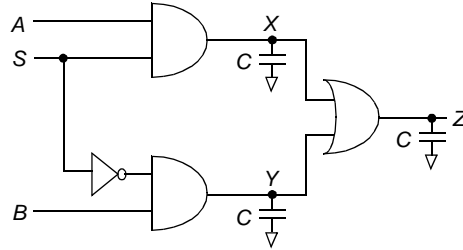

Figure 6.20 Two-input multiplexer
28. [C, None, 4.4] Figure 6.20 shows a two-input multiplexer. For this problem, assume independent, identically-distributed uniform white noise inputs.
29. [M, None, 4.4] Compute the switching power consumed by the multiplexer of Figure 6.20, assuming that all significant capacitances have been lumped into the three capacitors shown in the figure, where  $C = 0.3$  pF. Assume that  $V_{DD} = 2.5$  V and independent, identically-distributed uniform white noise inputs, with events occurring at a frequency of 100 MHz. Perform this calculation for the following: